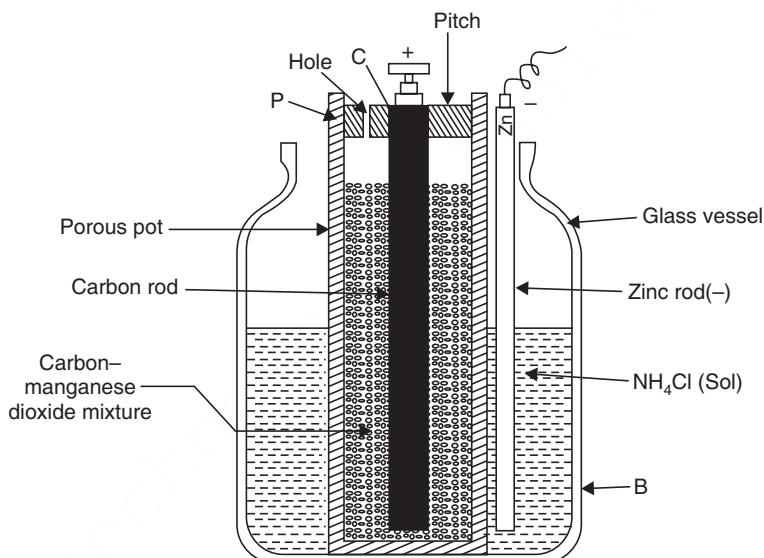

Fig. 10.14 Leclanche cell.
(a) **Leclanche cell.** (Fig. 10.14) This type of cell was devised by Georges Leclanche. The cell consists of a glass vessel B, which contains a saturated solution of NH_4Cl as an active liquid. The cathode is an amalgamated Zn-rod (Z) dipped partially in NH_4Cl solution. The anode is made of gas carbon (C) placed within a porous pot P which is also dipped partially in NH_4Cl solution. The space between the carbon rod and the pot is filled with a mixture of powdered charcoal and MnO_2 which serves as a depolariser. Since MnO_2 is a very poor conductor, charcoal is added to increase the conductivity. The top of the pot is sealed with pitch. The seal has a hole to allow the escape of NH_3 gas. The e.m.f. of the cell is 1.4 V.